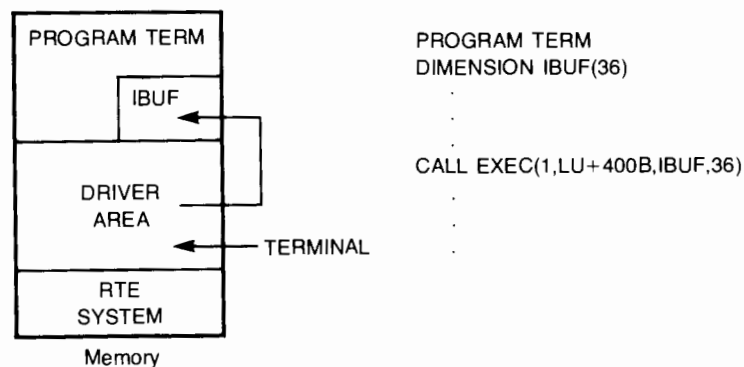

Figure 1. Input Using an EXEC Request
Let's assume throughout that the program sends some message to the user indicating the input expected and then issues a read request to the terminal. If an EXEC or REIO call is used for the input, the program will stop executing until the input is complete. The driver will be set-up by RTE to transfer the input from the terminal directly to the program's buffer (see Figure 1). The executive request used is a read (EXEC 1) from the terminal (LU) with echo enabled (400B) so that the user can see what is typed. The ASCII input data will be stored into array IBUF with a maximum of 36 words to be accepted.